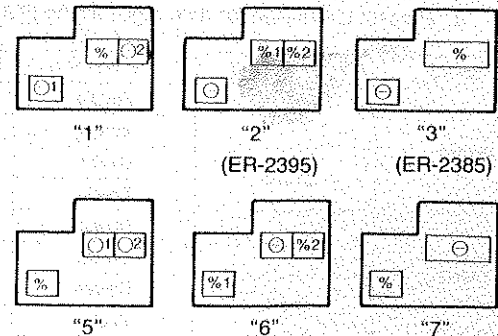

Fig. 6-2
1. Conversion of key position for 1 & 2, 2 & 1 keys. (see Fig. 6-2)